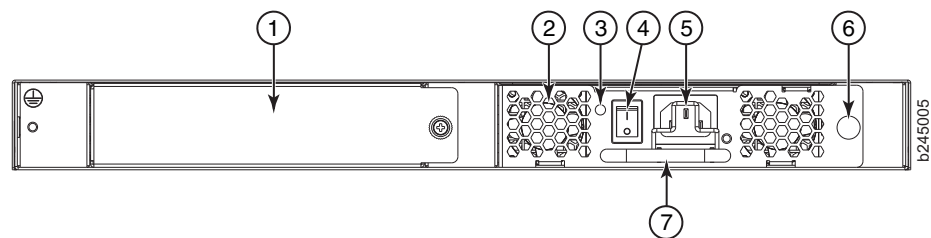

Figure 13. Switch power supply and fan assembly components on the non-port side
The SAN24B-5 base model has one power supply and fan assembly, as shown in Figure 13. If installed, power supply unit 2 would be located where the filler panel **1** is shown.
- Check the power supply and fan assembly status LED next to the On/Off switch (see **3** in Figure 13 on page 33)